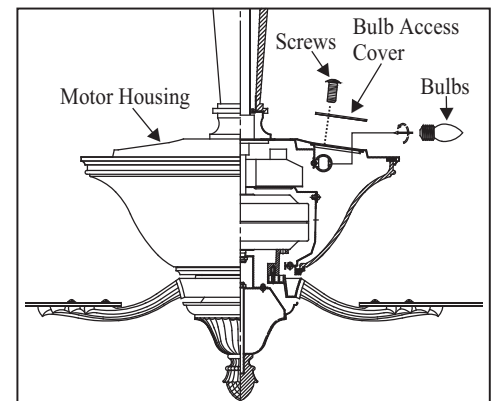

Figure 16
1. Remove the 2 screws from the bulb access cover and take the bulb access cover off from the top decorative housing as shown in Figure 16.